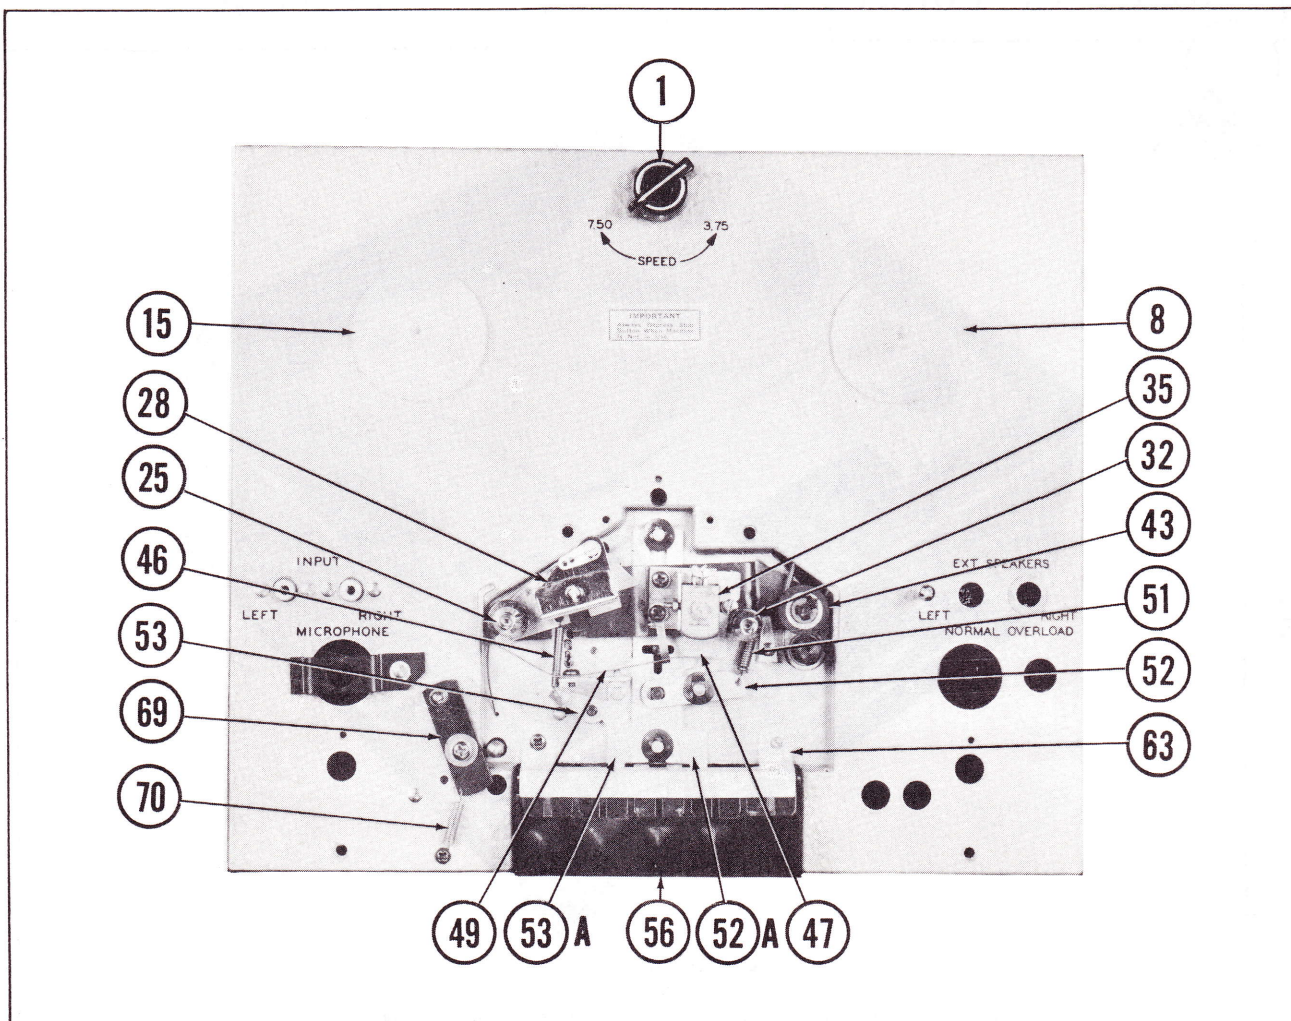

FIG.1 TOP VIEW OF MECHANISM WITH ESCUTCHEON REMOVED
2. With timer escutcheon (7) and front escutcheon (14) removed, check erase head (28) to see that it is parallel with the tape.
3. Make sure the top edge of the tape coincides with the top end of the diagonal slot in the erase head (junction of long diagonal and short vertical slot). (See Fig. 1.) To adjust the level of the tape, loosen set screw (24), and rotate tape guide post (25) to move the tape up or down. (See Exploded View.)